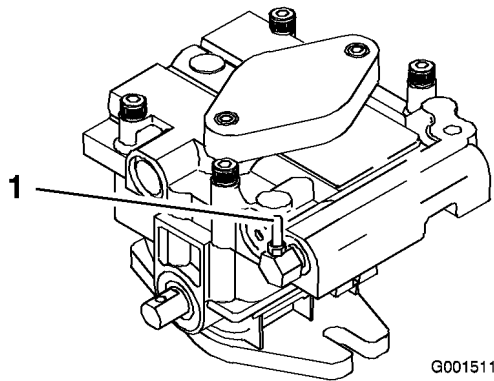

Figure 13
2. Open the by-pass valves by turning them counter clockwise 1 to 2. This allows hydraulic fluid to by-pass the pumps and the wheels to turn (Figure 13).